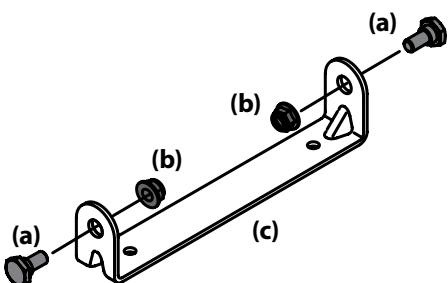

Figure 2-5
1. Remove the shoulder bolts (a) and lock nuts (b) from the seat mounting bracket (c) included in your hardware pack. See Figure 2-5.